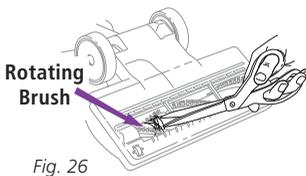

Fig. 26
- 2 Inspect the opening underneath and the rotating brush. If a build-up of debris is present, remove it. Carefully cut anything wound around the rotating brush with scissors. Avoid damaging or cutting the bristles. **(Fig. 26)**